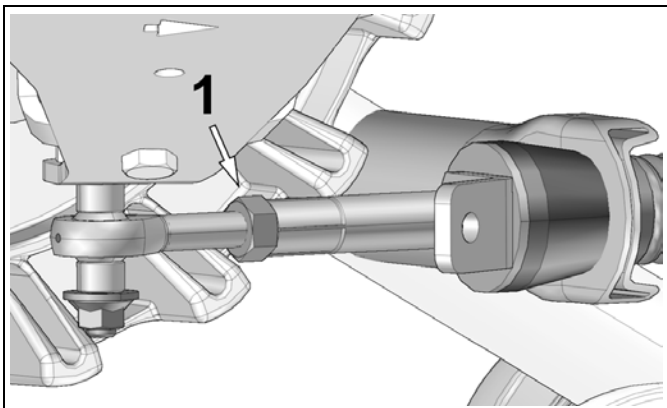

Figure 6
- When angle of attack is correctly set, re-tighten the jam nut (1) to 40 N•m [30 lb•ft] of torque. See Figure 6.